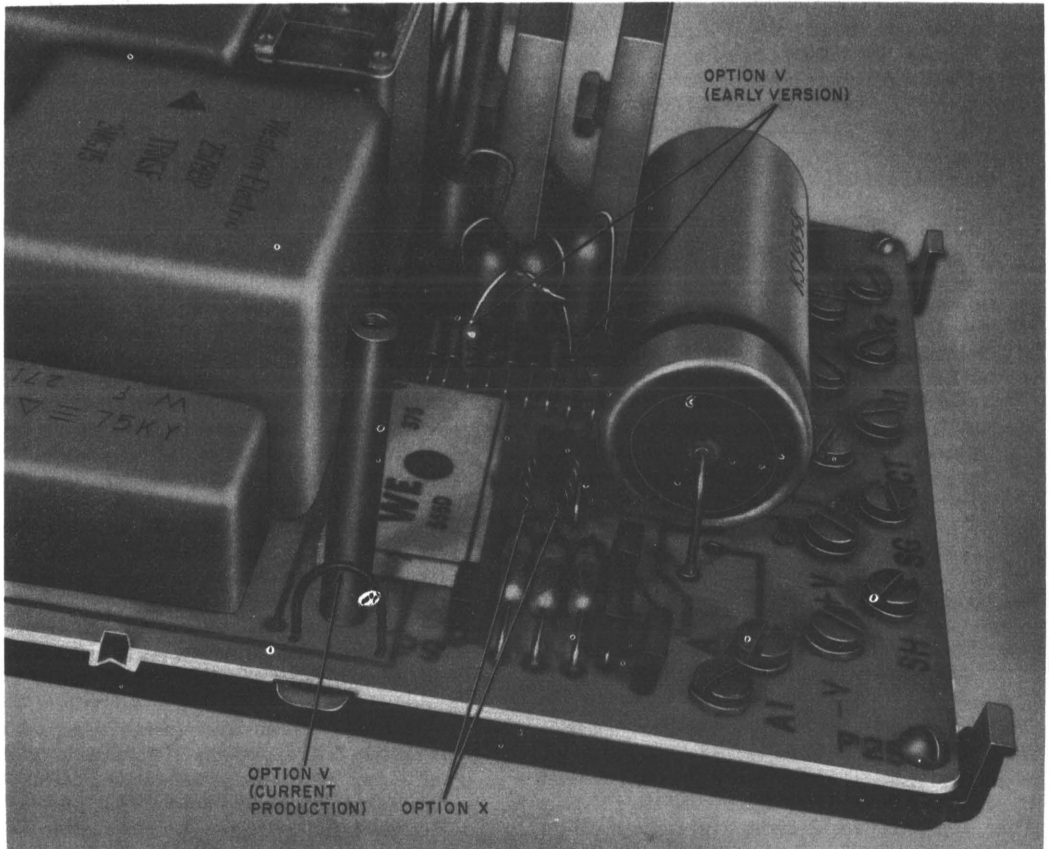

Fig. 3—1001F Data Coupler Showing Option Straps
2.07 An external transformer (KS-20426-L1) is required with each coupler to step down the standard 117-Vac power to 23.6 Vac. When telco furnishes the power, the internal rectifier provides the dc supply to all the coupler circuitry. This uses the two factory-provided straps which are left connected (option X not applied). The coupler may also be powered by the customer through the +V, -V, and SG customer interface leads. In this case the two factory-provided straps must be removed (Fig. 3 and 4) (option X is applied). Customer power requirements are indicated in 3.15.